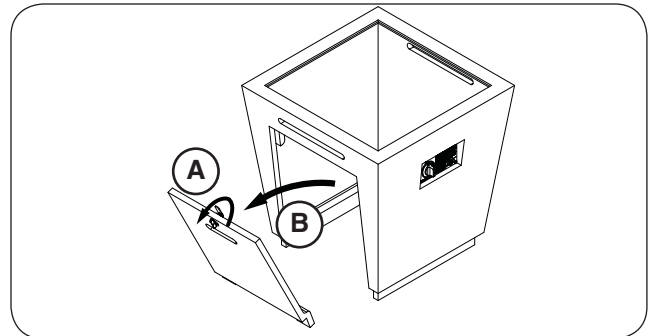

Fig. 25-2 Remove door
2. Remove the storage door by first turning the door handle counter-clockwise, then carefully pulling the door outward (see Fig. 25-2). Store in a safe location.